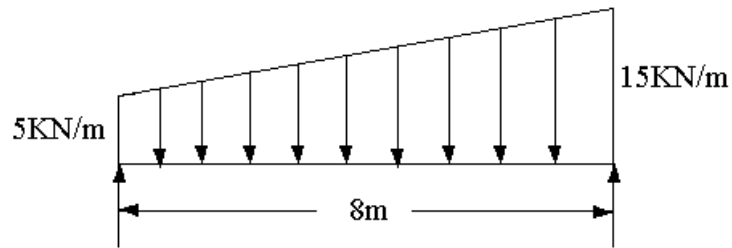

Figure 8
8. Obtain the S.F.D. & B. M d and find the maximum values for the beam loaded as shown in Figure 8. [16]